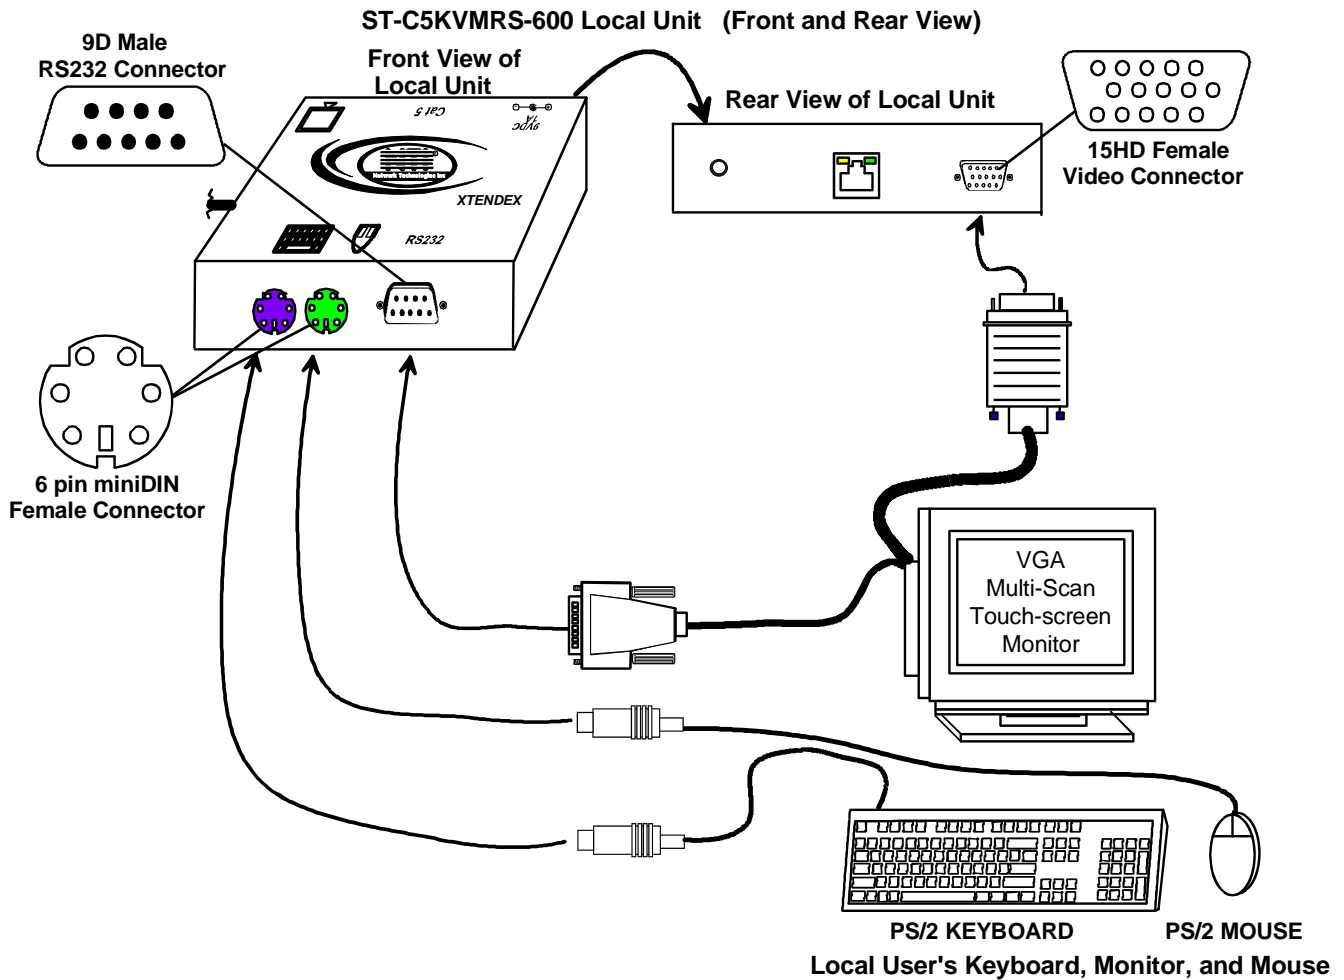

Figure 3- Connect the local user to the XTENDEX Local Unit
2. Make connections for a local user (see Figure 3)